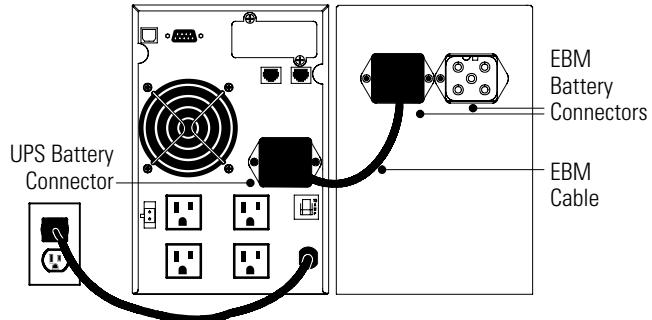

Figure 22. External Battery Connections (120V Model Shown)
4. Plug the other end of the EBM cable into the UPS as shown in Figure 22.